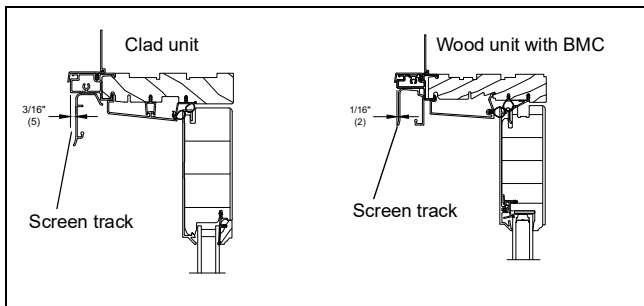

Figure 1
- Center the screen track at the unit head jamb. Align the front of the screen track with the front edge of the cladding or BMC. Pre-drill pilot holes through the screw holes in the screen track with the 3/32"(2) drill bit. Secure the screen track to the head jamb with the supplied screw. See figure 1.